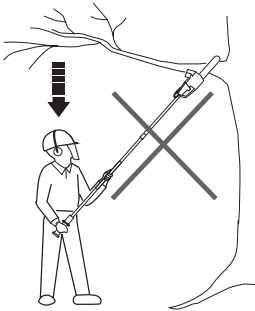

Fig. 35
6. Never stand directly under the limb you are sawing. Objects may fall different than expected. Always position yourself out of the path of falling limbs (Fig. 35).